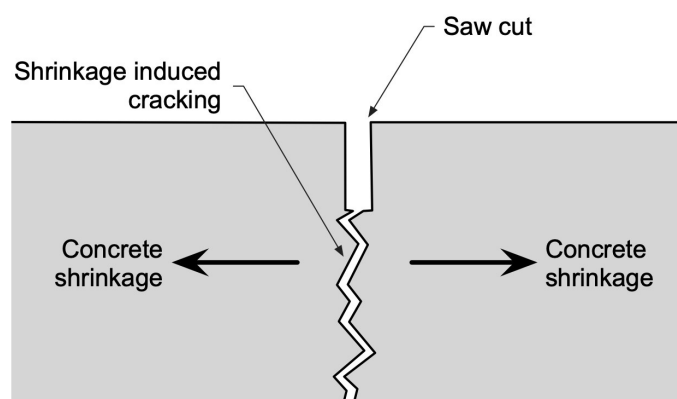

Figure 6: A crack-control joint example for a concrete slab-on-grade
- ▶ Control joints which are normally only used to control the location of shrinkage cracks and are mostly concerned with aesthetics (Figure 6).